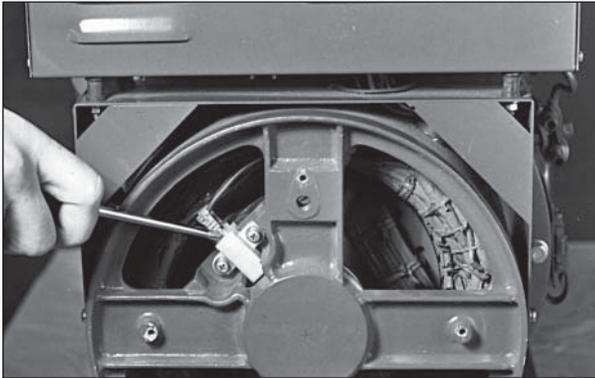

Figure 34: Brush Location.
- b. Brush assembly is white plastic with two wires leading to it. It is located at ten o'clock and is held in position by two screws (Figure 34). Remove the screws and unplug leads.